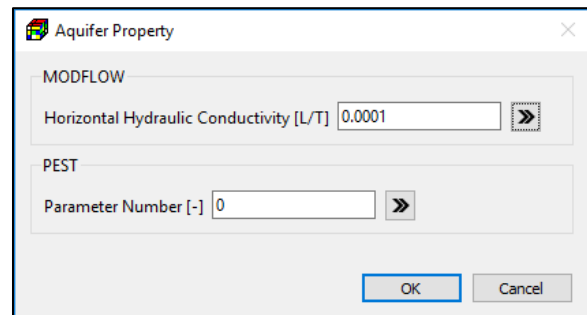

Figure 20. The Aquifer Parameter dialog box
- Most dialog boxes for the polyline data entry contain **»** buttons next to the data entry fields. Figure 20, for example, shows the Aquifer Parameter dialog box with the **»** buttons. You may click the **»** button next to a parameter